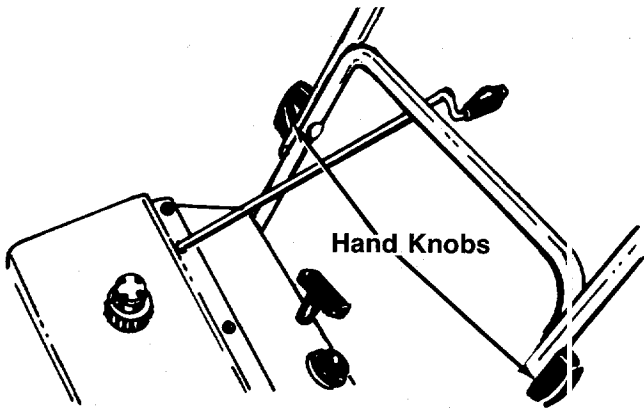

FIGURE 1.
2. Loosen the hand knob on each side of the handle. Pull handle up into operating position. See Figure 1. Retighten the hand knob.